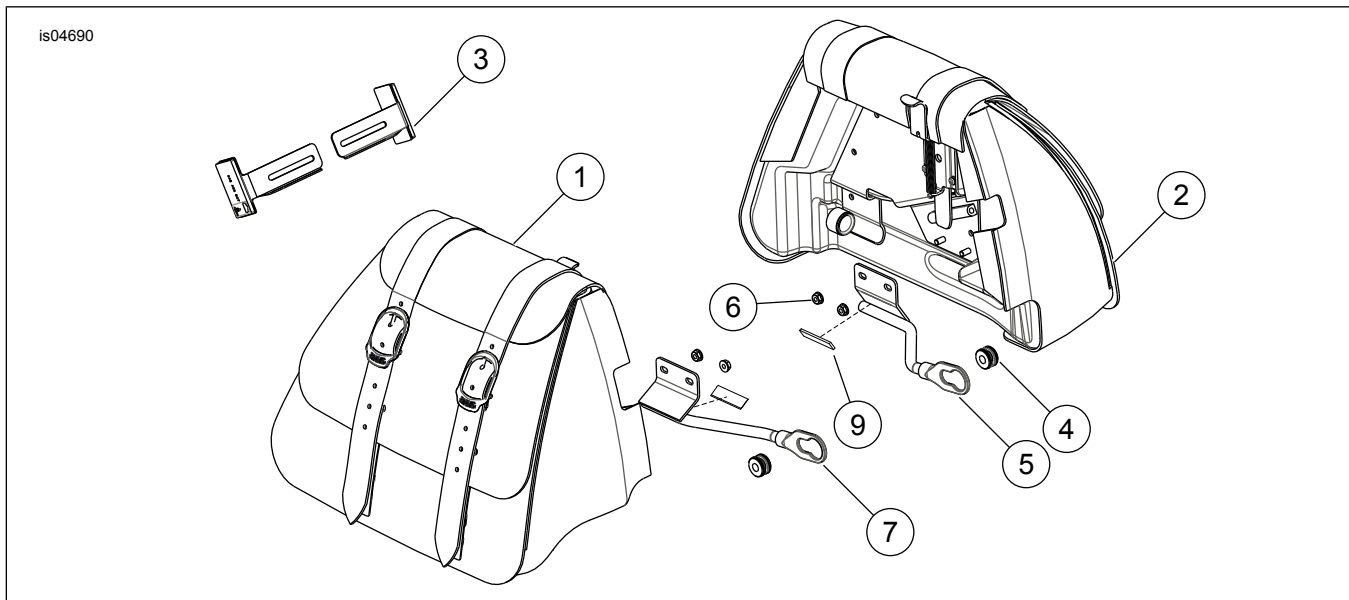

Figure 4. Service Parts: FXCW and FXCWC Saddlebag Kit
See Figure 4 and Table 2.
- For All Models:** See Figure 4. Install saddlebag support (5) to saddlebag (2) with flange nuts (6). Tighten nuts hand-tight at this time. Repeat for saddlebag support (7) and saddlebag (1). Install rubber isolator tape (9) on saddlebag support as shown.
7. See Figure 4. Once proper alignment of saddlebag assembly has been achieved, tighten flange nuts (6) to 7–11 N·m (60–96 **in-lbs**). If necessary, mark the position of the assembly and remove the saddlebag to tighten the flange nuts.